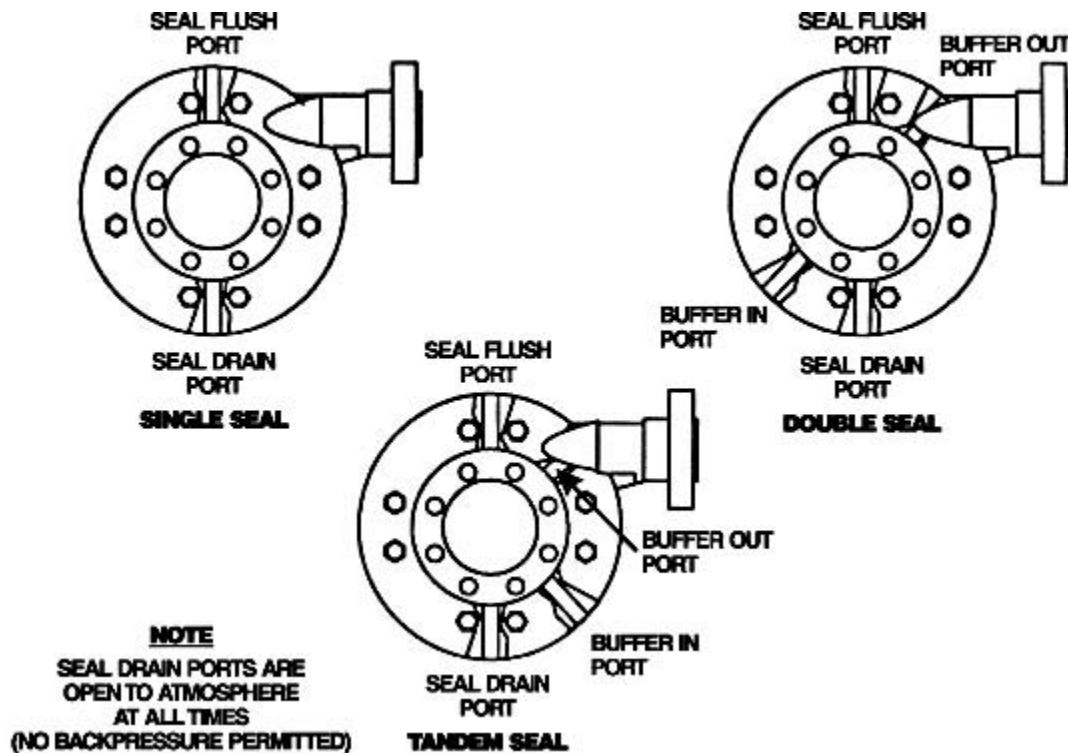

Figure 2
- A. Good installation practice dictates that there should be a minimum straight length of pipe on the suction of the pump equal to ten (10) times the suction pipe diameter. This is to allow the liquid to flow into the pump casing/impeller without turbulence. Furthermore, good installation practice dictates the use of suction piping at least one or two sizes larger than the pump flange and reduction of the pipe diameter at the pump flange. Use an eccentric reducer with the "Belly" side down. **Do NOT** install with "Belly" side up. Never use suction piping of a smaller diameter than the pump suction inlet.
- E. Do not rotate the seal housing. The seal ports must always be as shown in Figure 2.
- A. Depending upon the pump seal arrangement and application, a seal environment control system may be required. The pump seal environment must always be maintained as determined by the seal arrangement. There are three different seal arrangements available for your Sunflo P-3000 pump: The single seal, the double seal, and the tandem seal. It is important that the seal environment control system piping be connected as shown in Figure 2 and that the seal drain port is always left open.
**If a seal flush system is not in use, then the seal flush port should be plugged to prevent outside contamination of the seal cavity. The seal flush port is at the 12 o'clock position as shown in Figure 2.**